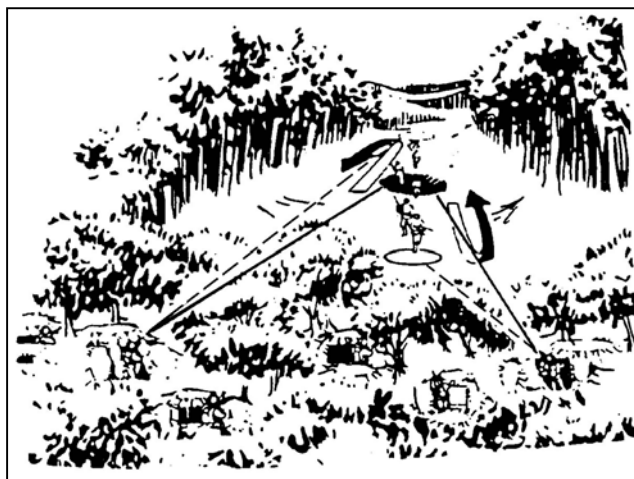

Figure 5-16. Engagement of deep targets with a pair of gunners.
(3) *Deep Targets*. When using a pair of machine guns to engage a deep target, the initial point of aim is also on the midpoint for both gunners. Normally, the gunner on the right has the near half and the gunner on the left has the far half. Since enfilade fire is being used, they do not adjust on the midpoint of the target, because the long beaten zone compensates for any range errors. After the initial burst, the gunner on the right searches down to one aiming point in front of the near end of the target, and the gunner on the left searches up to one aiming point beyond the far end. Both gunners then reverse their direction of search and return to the midpoint (Figure 5-16).